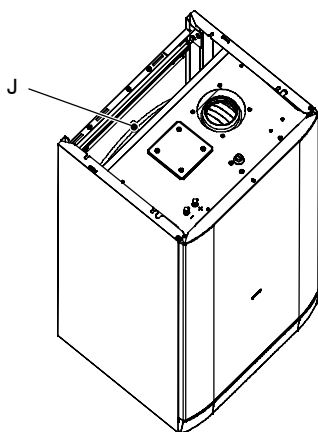

Fig. 63
- 2 Remove the protective cap J (Fig. 63) from the valve on the top of the expansion vessel and connect a suitable air pressure gauge.